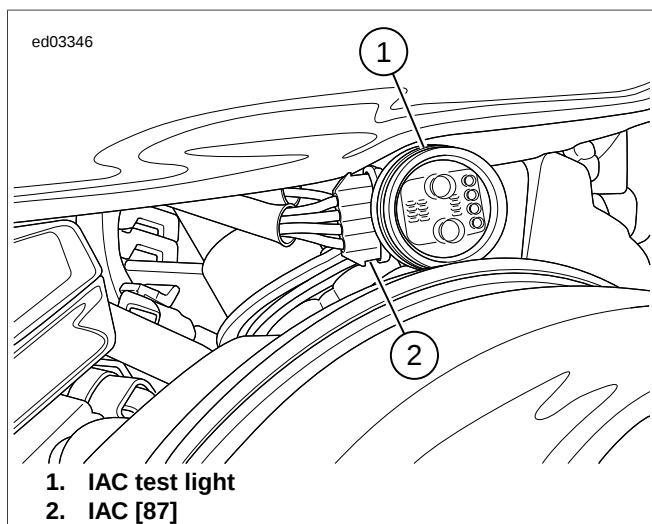

Figure 1-35. IAC Test Light
1. See Figure 1-35. Disconnect IAC [87B] and connect test light.